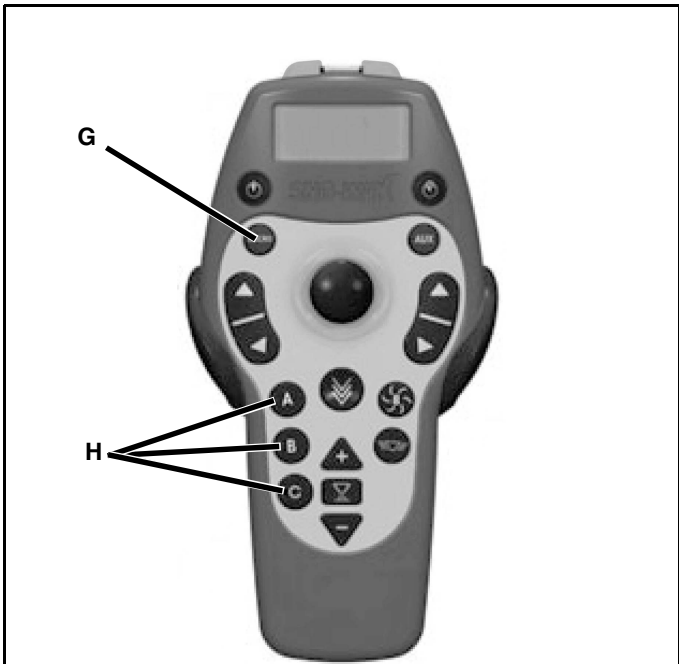

Figure 1-8
2. Locate the round button (Figure 1-8, G) that is labeled macro. Press and hold macro button two seconds until LCD screen displays “Begin Learning.”
4. Press A, B or C (Figure 1-8, H) depending on desired storage location for macro.